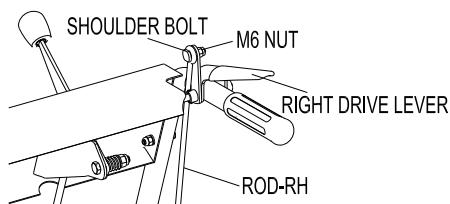

FIG 6
**2.4.2** Attach the upper side of the rod by removing the shoulder bolt from the drive lever and placing the bolt through the rod loop and tighten. (FIG 6)